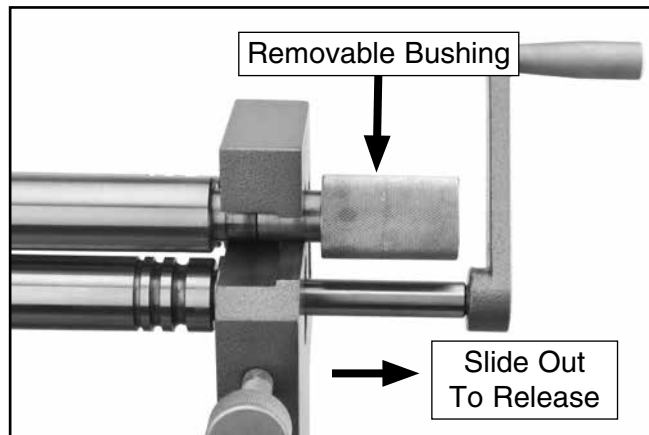

Figure 26. Removable bushing release.
1. Slide the removable bushing outward. This will release the top roller from the stand (see **Figure 26**).